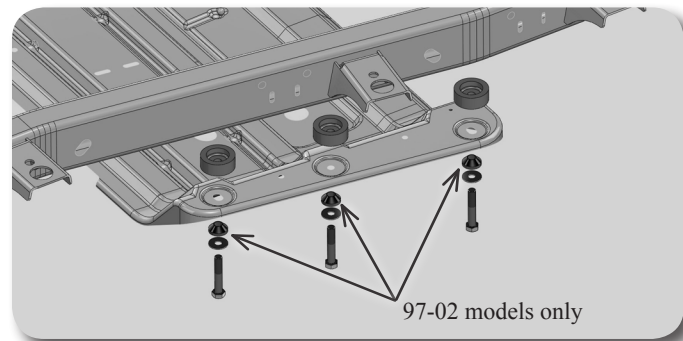

Figure 13
5. Attach the skid plate to the frame with the provided hardware: 97-02 models (kit #J1300) use 1/2" x 2.5" bolts with the provided 7/16 USS washers and conical washers. 03-06 models (kit #J1301) use 12mm x 50mm bolts with 7/16" USS washers only. **Figure 13** Leave hardware loose.